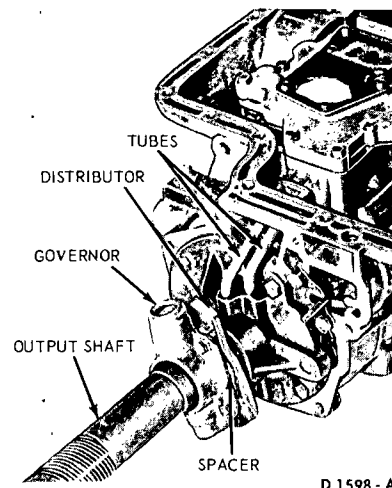

FIG. 25—Governor Installed
13. Remove the four bolts that attach the governor to the distributor (Fig. 25). Slide the governor off the output shaft.
14. Secure the governor (Fig. 25) to the distributor flange with the attaching bolts. Torque the bolts to specification.